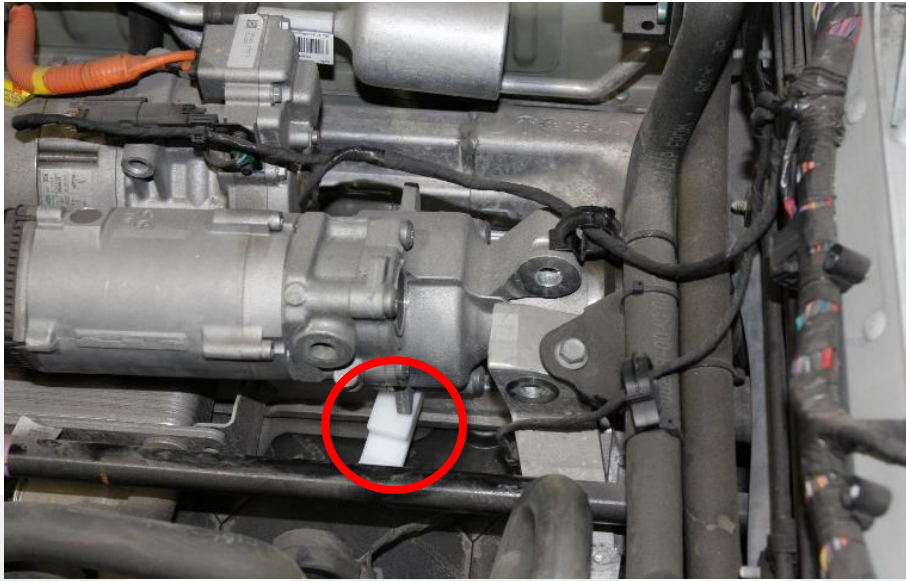

Figure 22
8. To access the steering rack without damaging components, use a plastic trim tool, block, or similar spacer as needed between the steering rack and the front subframe to raise and support the RH side of the steering rack (Figure 22).